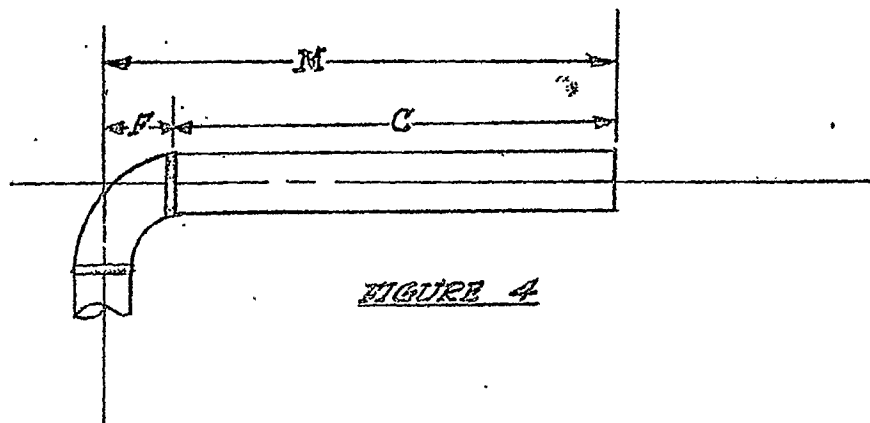

FIGURE 4
(5) In Figure 4, the welded ell dimension "F" is deducted from the measurement "M" to determine the length of the cut "C". The dimension "F" is known as the "take off". The "M" measurement is a center to end measurement.
- Figure 4 - Center to End (C to E)
(1) In calculating cuts for piping installations, it is of course necessary to deduct from field measurements the space that will be taken up by the fittings to be installed.
(2) Manufacturers of pipefittings have standardized dimensions on all types, classes and weights of welded fittings. For example, all welded elbows of the same classification and size are made to uniform dimensions. See chart "Dimensions of Valves and Fittings."